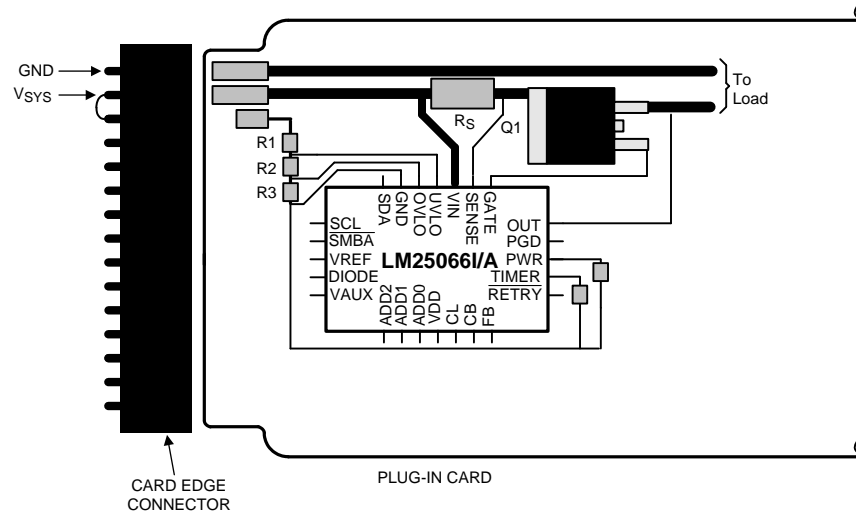

Figure 48. Recommended Board Connector Design
- The board's edge connector can be designed such that the LM25066I/A detects via the UVLO/EN pin that the board is being removed and responds by turning off the load before the supply voltage is disconnected. For example, in Figure 48, the voltage at the UVLO/EN pin goes to ground before  $V_{SYS}$  is removed from the LM25066I/A because of the shorter edge connector pin. When the board is inserted into the edge connector, the system voltage is applied to the LM25066I/A's VIN pin before the UVLO voltage is taken high, thereby allowing the LM25066I/A to turn on the output in a controlled fashion.